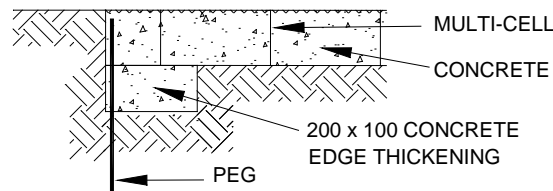

Figure 3
- For the construction of canals it is advisable to install under-scour protection at regular intervals (see Figure 3)